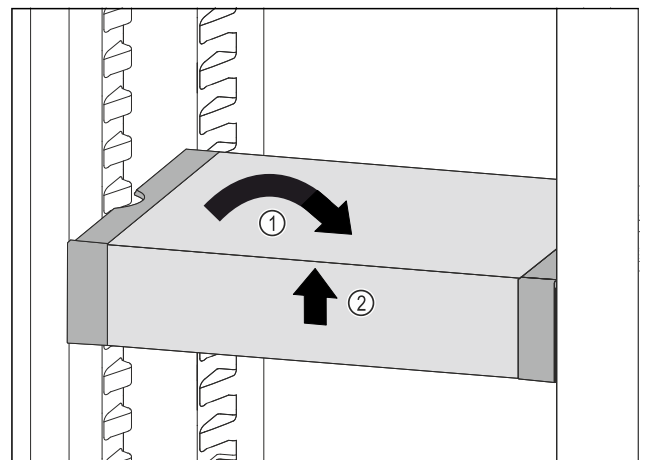

Fig. 162
- Set VarioSafe straight. Fig. 162 (1)
- Lift VarioSafe at the front. Fig. 162 (2)